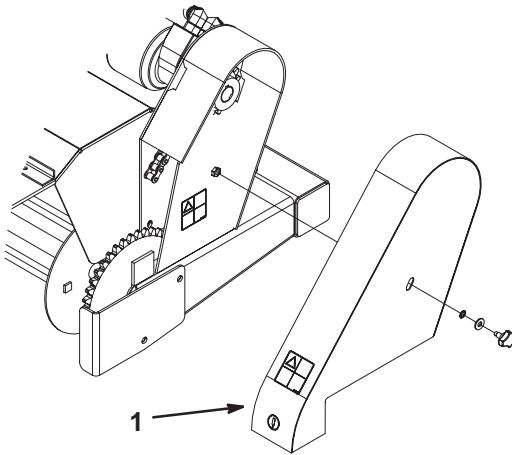

Figure 23
1. Remove retainer knob, flat washer and retaining ring securing chain cover to frame and remove cover (Fig. 23).